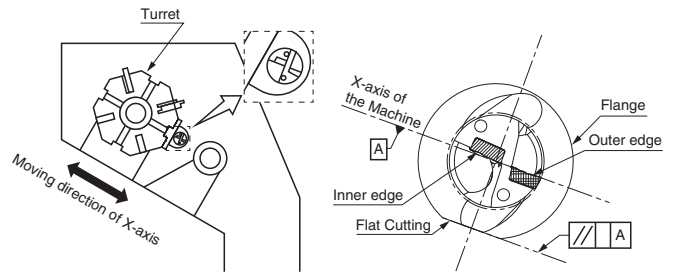
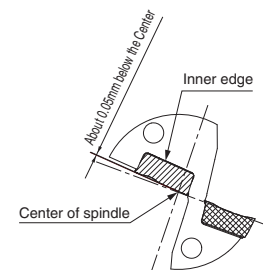

Fig. 1 Installed into the Lathe
Fig. 5 Front View of the Drill
- (1) Adjust the scale at the flange periphery of the sleeve to the reference mark (DRV/DRX) or the center of coolant plug (DRZ). (Fig. 1)
- (2) When making the hole diameter larger, rotate the sleeve in (+) direction and to make it smaller, rotate the sleeve in (-) direction.
- (3) When rotating the sleeve, insert the wrench supplied with the drill into the hole on the flange periphery to rotate the sleeve.
- (4) Using the bottom screw of the side-lock arbor, firmly tighten on the drill directly through the sleeve's window.
- (1) The top face of the outer insert should be parallel to the X-axis to allow for offset cutting. (Drill diameter can be changed by moving X-axis.)
- (2) It is recommended to set the outer insert as shown in Fig. 1 with the outer insert facing the operator. (Fig. 1)
When installing inner insert as shown in Fig. 1, it will be set around 0.05mm below the Center of Spindle. (Fig. 5)